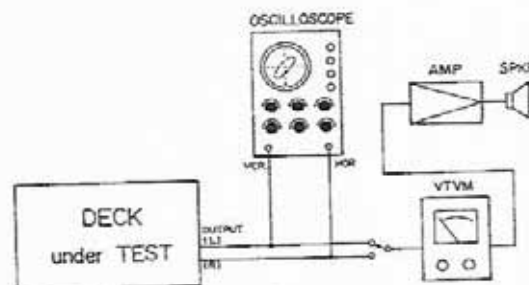

Fig. 8-3 Head Alignment Fine Adjustment Set-up and Test Connections (PLAYBACK)
6. Connect an oscilloscope to the OUTPUT jacks as shown in Fig. 8-3.